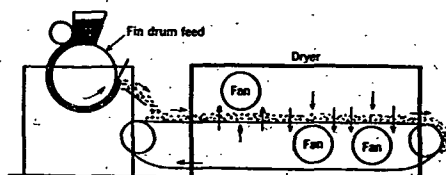

FIG. 2. SECTION OF CONTINUOUS DRYER, BLOW-THROUGH TYPE.
5. Through-circulation dryers, (Fig. 2).